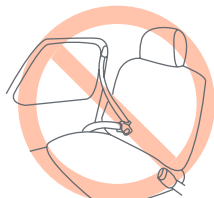

Fig. 15-3
- **DO NOT** use a seat belt that is connected to the door in any way. These types of seat belts are designed to automatically surround the occupant when the door is closed. This type of seat belt will **NOT** adequately restrain the Safety Seat (Fig. 15-3).